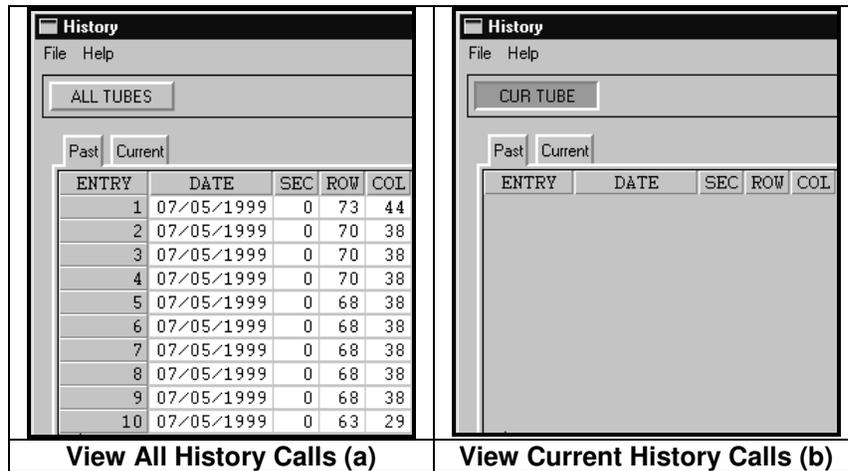

Figure 3-83. History Dialog - Viewing ALL TUBES vs. CUR TUBE History
The **ALL TUBES** button on the **History** dialog shown in Figure 3-83 causes all the tubes in the currently loaded history file for the tab selected to be displayed. If the **ALL TUBES** button is depressed, it turns green, and changes to **CUR TUBE** indicating that only the historical calls, if any, for the tube file currently being analyzed will be displayed. In Figure 3-83, figure (a) shows *all tubes* loaded into **Past** history while figure (b) shows only calls from the **Past** history file for the *current tube* being analyzed. In this example, no calls are being displayed in figure (b) for the current tube since none exist for the current tube in this sample history file.
**Clicking** either the **Past** or **Current** tabs in Figure 3-83 causes the historical calls to be displayed as appropriate. Applicable **Past** and/or **Current** history files must be loaded in order to view historical calls under either tab.